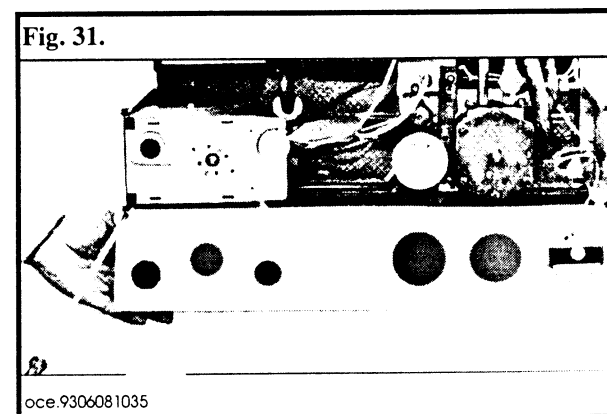

Fig. 32.
The electrical cut out leads (ECO) are permanently attached to the thermostat at one end (Fig. 28). The opposite ends of the leads are connected (a) to the rear face of the gas valve (Fig. 29) below and (b) the top of the gas valve (Fig. 13) and (Fig. 32).
CHECK THE GAS SUPPLY IS TURNED OFF AT THE SERVICE COCK BEFORE PROCEEDING. (Fig. 13); (Fig. 32).
c) Using a 9 mm. spanner slacken the thermocouple capillary connector on top of the gas valve. Pull out the ECO lead connector. Fig. 13 and Fig. 32.